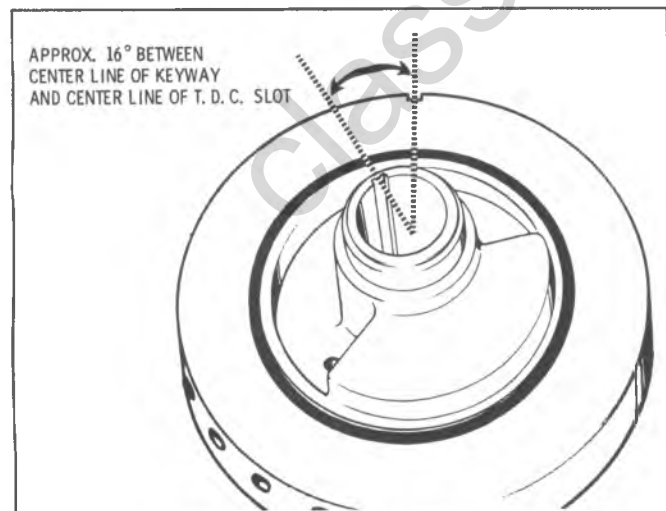

Fig. 6A6-78—Harmonic Balancer
3. Using balancer puller, remove balancer as shown in Fig. 6A6-77.
If it is suspected that the bond between the sections of the harmonic balancer has been broken and the slot changed, it can be visually checked as shown in Fig. 6A6-78. The center of the keyway should be approximately 16° from the center of the timing slot. In addition, there are chisel aligning marks between the weight and hub, marks should be together.